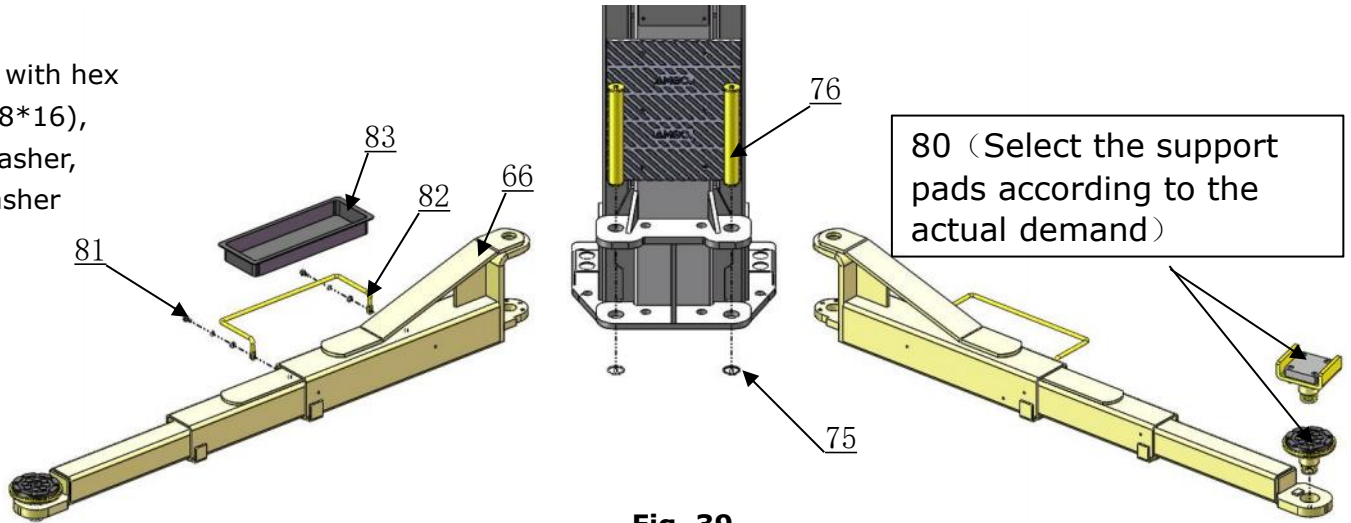

Fig. 39
1. Install lifting arms according to the figure, then install spring on the arm pin, last install guard bar.(See Fig.39)